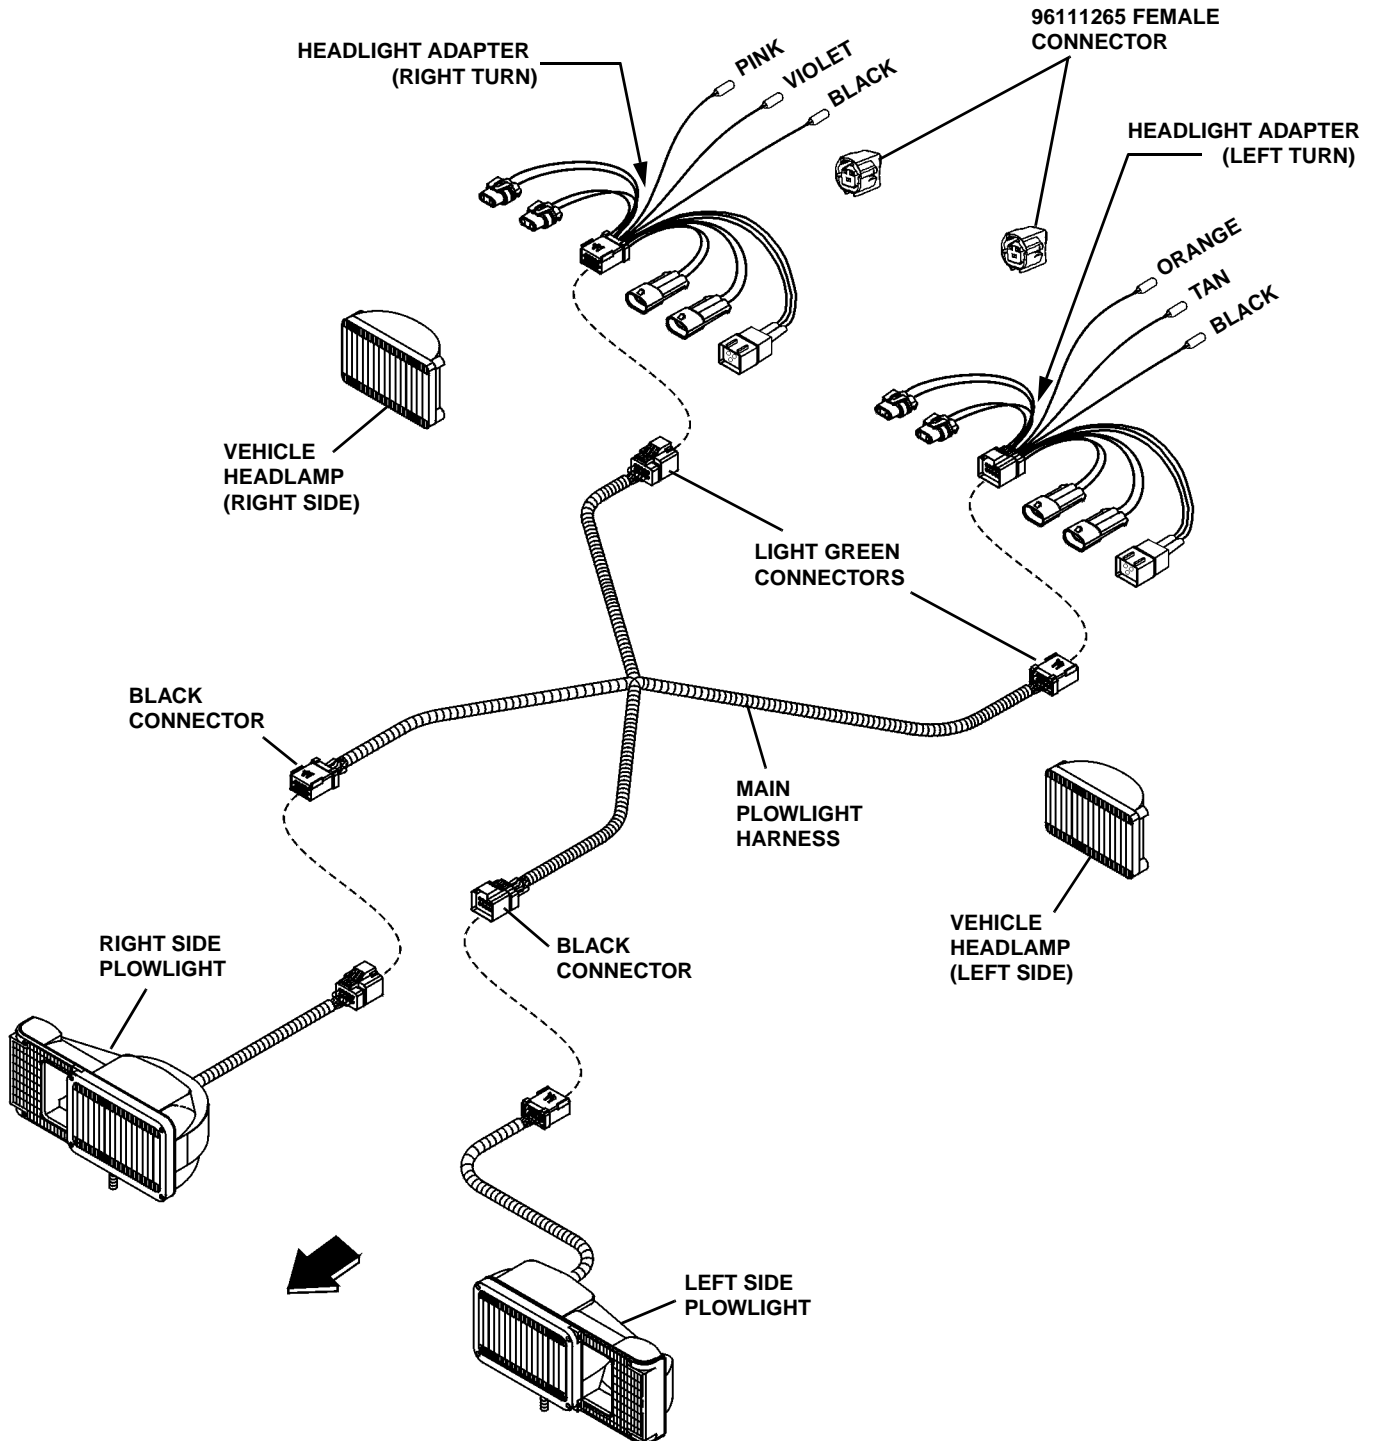

Figure 1
- Now take the wires from the vehicle that were removed from the turn signal connector and plug them into the connector (96111265) provided and shown in Figure 1 as follows: